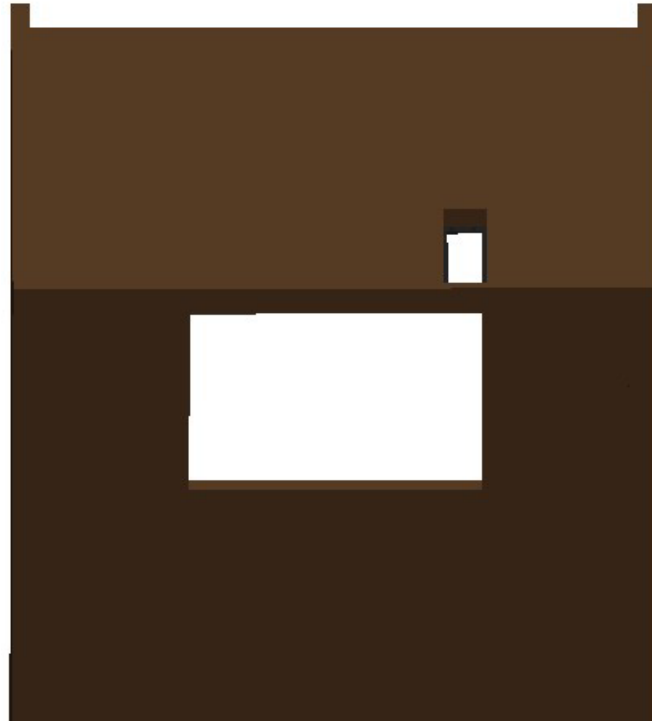

Fig. 2.2 TOP EXHAUST CUTOUTS
- If top exhaust installation, cut another rectangular opening at the top of the cabinet to the length and width of the top exhaust (see Fig. 2.2).